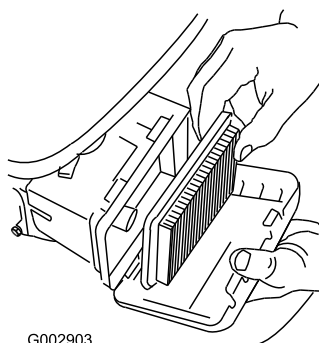

Figure 38
3. Remove the air filter (Figure 38).